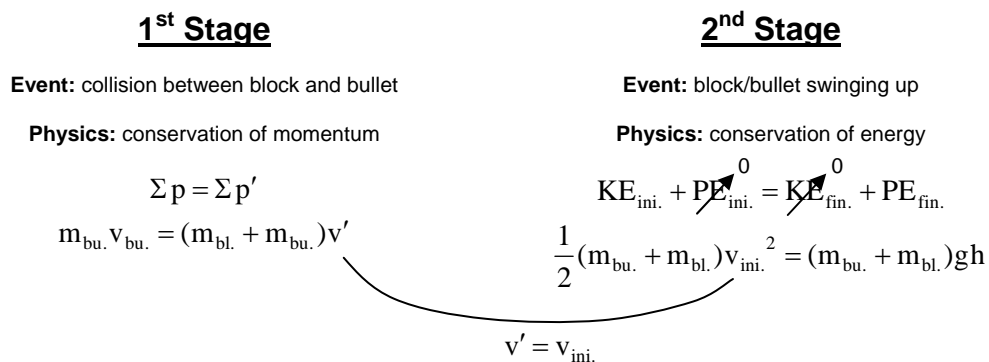

FIGURE 2 – Stages for Combo Problem
This example would be a *two stage combo problem*. The 1st stage would be a collision between the bullet and the block. The area of physics that this relates to is conservation of momentum (a perfectly inelastic collision). We could do a calculation that determines the velocity of the block/bullet after the collision based on the velocity of the bullet as well as the masses of each. See Figure 2.
When analyzing these combo problems it is useful to be clear on the *beginning* and *ending* of each stage. The *initial* part of the 1st stage is the bullet approaching the block. The *final* part of the 1st stage is after the collision, at which point the block/bullet just begins to move up into the air. There is always a final piece of information that you calculate at the end of a stage that becomes an initial piece for the next stage. In this case, the final velocity of the block/bullet after the collision becomes the initial velocity of the block/bullet as it begins its swing upward. See Figure 2.
The initial part of the 2nd stage is right after the collision as the block/bullet begins its swing into the air. The final part of the 2nd stage is when the block/bullet is stopped at its highest point in its swing. The area of physics that this stage relates to is conservation of energy. At the beginning of this stage all the energy is kinetic and by the end of the stage the energy has turned into gravitational potential energy. See Figure 2.
A) Your combo problem will be to determine where on the floor the ball will land if it is launched from the spring launcher. Determine how many stages this combo problem has. Write out the stages in your lab report in the same way that it was done in **Figure 2**. For each stage, write down what type of physics you are using and also derive the equation for each stage. Check with your TA to see if your equations are correct before you move on.